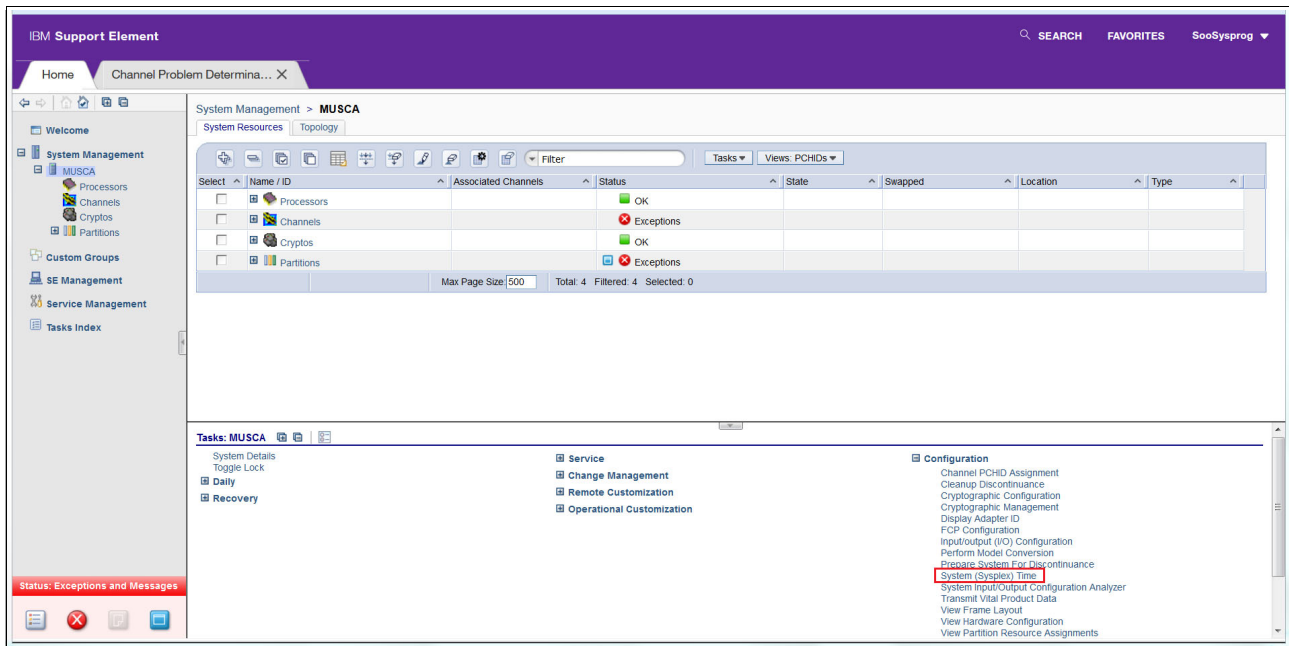

Figure 5-38 Single Object Operations: System (Sysplex) Time
8. Click **System (Sysplex) Time** (see Figure 5-38).